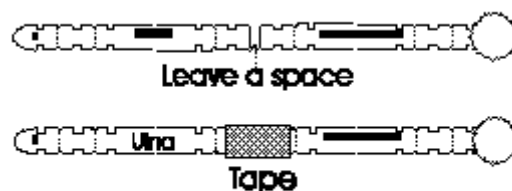

Figure 3
3. Now assemble the **elbow** as shown in Figure 3. Be sure to leave space between the humerus and the ulna about the thickness of a skill stick.